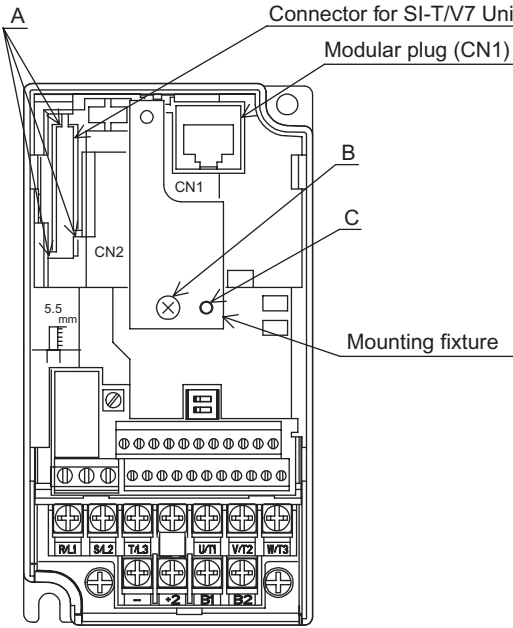

Fig. 1 Front of the Inverter
3. Use nippers to cut off the cover of the Inverter's CN2 connector in the three places-marked as A in Fig. 1. Be careful that the covers do not fall into the Inverter Unit. If pieces do fall in, be sure to remove them.